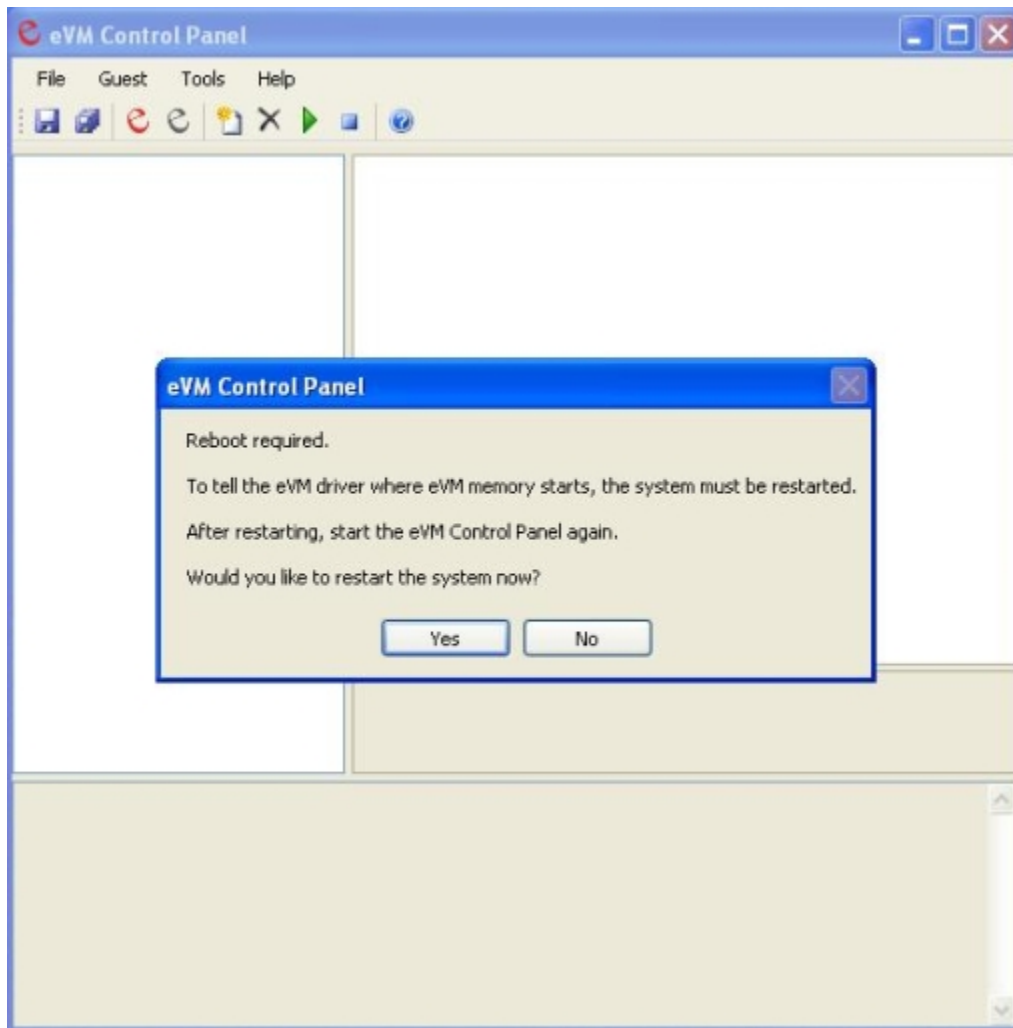

Figure F. 28 - eVM Control Panel Restart Prompt
27. After you click **Finish** in the dialog shown in Figure F. 26, the Wizard will prompt you that you now need to restart your system, Figure F. 28. A restart is required, so eVM can take the memory that it needs for eVM and the guest OS from Windows. In general, resizing Windows available memory requires a restart of the Windows OS. Click **Yes**, and wait for the system to reboot.